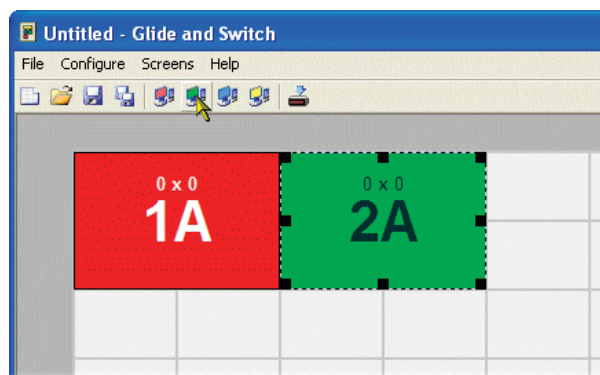

Figure 4-9. Adding display screens to the layout
- 1 On the icon bar, click the red, green, blue and yellow screen icons (or use the **Screens** menu) to add the required number of display screens to the map area. See Figure 4-9.